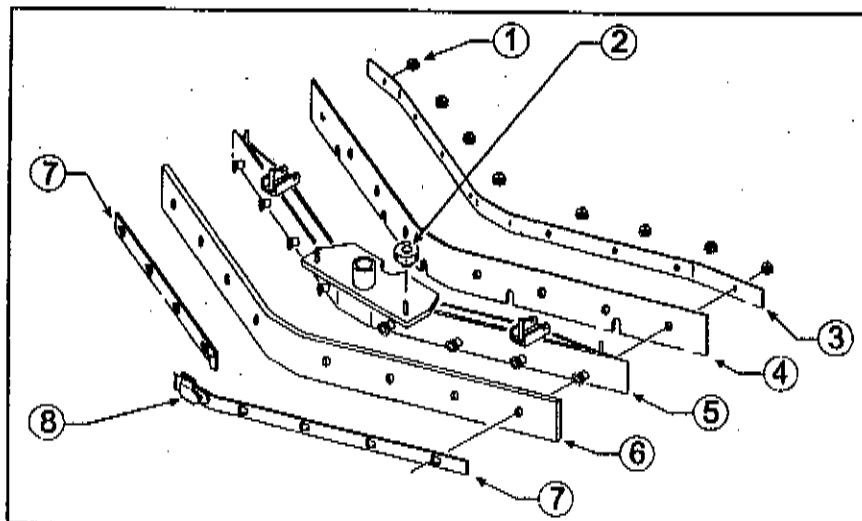

Fig. 16
- unscrew the knobs (fig. 16, ref. 1);
- remove the blade clamps (fig. 16, ref. 3);
- take out the blade (fig. 16, ref. 4);
- put the blade clamp (fig. 16, ref. 3) back;
- screw down all the knobs (fig. 16, ref. 1).
- unhook the hook clamp (fig. 16, ref. 8);
- slide out the two blade clamps (fig. 16, ref. 7) by first pushing them outwards with respect to the squeegee unit (fig. 16, ref. 5) and then taking them out;
- remove the blade (fig. 16, ref. 6);
- fit in the same blade inverting the edge in contact with the floor until all the four edges are worn, or else fit in a new blade embedding it in the screws of the squeegee unit (fig. 16, ref. 5);
- put the two blade clamps (fig. 16, ref. 7) back, centering the largest part of the slots on the fixing screws of the squeegee unit (fig. 16, ref. 5) and then pushing the blade clamps towards the inside of the squeegee itself;
- hook the clamp (fig. 16, ref. 8) again.